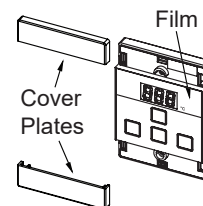

Fig. 4
7. Remove protective film from the controller face and replace the cover plates (Fig. 4).